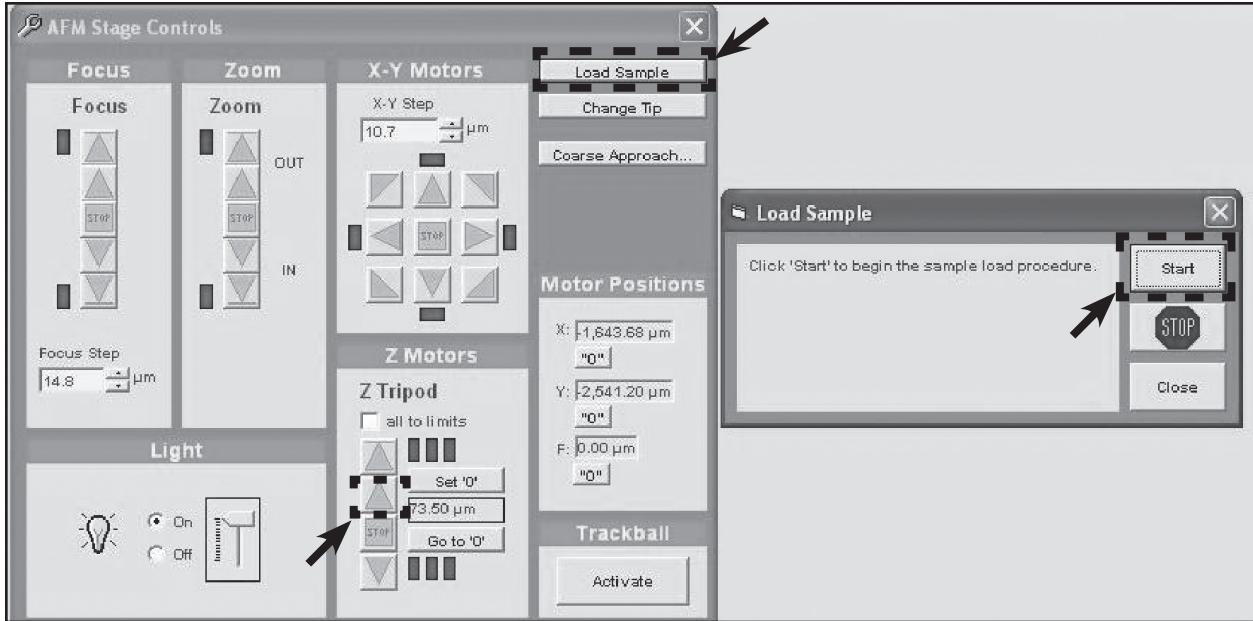

Figure 2.19: Raise the Probe Tip away from the Sample, Click Load Sample button and Start.
3. Click the Up button (Figure 2.19) to raise the Z motors until there is at least a few millimeters of clearance between the probe and the sample surface [or puck if no sample is loaded].
4. Click the Load Sample button and then the Start button [see Figure 2.19]. The motorized X-Y stage will move the puck fully forward.